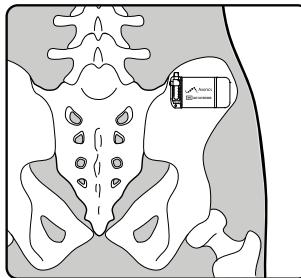

Figure 3: Axonics Neurostimulator implantation position.
- The Neurostimulator should be implanted horizontally (**Figure 3**) with the ceramic side farthest from the patient's midline to facilitate charging and programming.
1. Place the Neurostimulator into the subcutaneous pocket. Ensure that the ceramic side is placed away from the patient's midline to ensure good communication with the Remote Control and ease of recharging (**Figure 3**). The etched writing can face either towards or away from the muscle tissue. Ensure that the lead curves gently away from the Neurostimulator with no sharp bends.